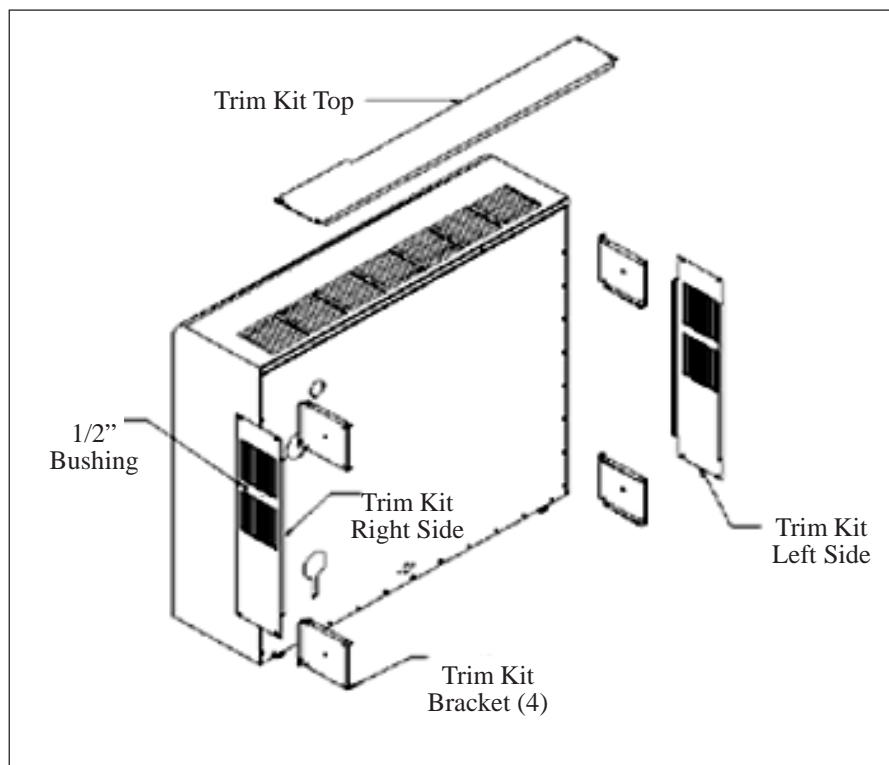

FIGURE 9
- c) Secure trim kit brackets to back of heater using eight #8 screws provided. (See Figure 9).
- i) Secure right and left trim side panels to the wall and trim kit brackets with eight #8 screws provided. (See Figure 9). This will space the back of the heater 5" from the wall.